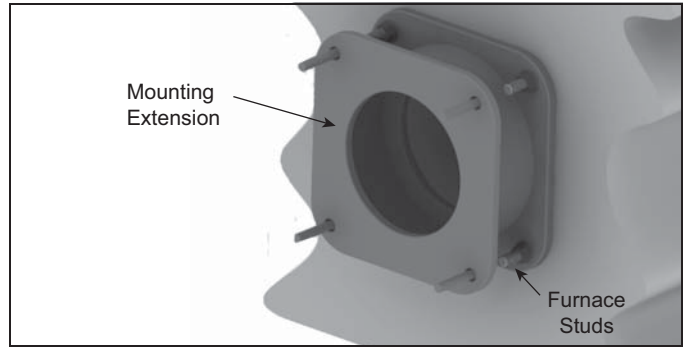

Figure 3.5.
4. Bolt mounting extension to the furnace casing. See Figure 3.5.